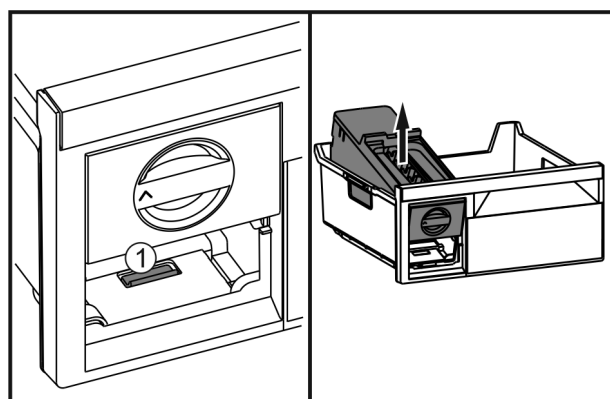

Fig. 55
- Press the lug Fig. 55 (1), lift up the EasyTwist-Ice at the back and take it out of the freezer drawer.